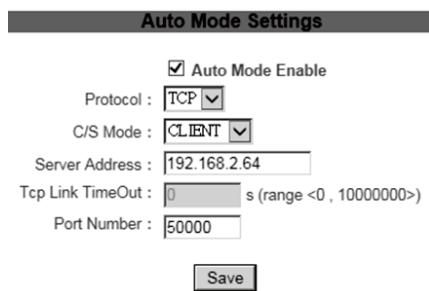

Figure 31
9. In "Auto Mode Settings" column, mark a check (default) before the "Auto Mode Enable", "Protocol" is communication protocol, choose "TCP" (default) or "UDP" to communicate; "C/S Mode" is working mode, choose "SERVER" (when you in SERVER mode) or "CLIENT" mode; "Tcp Link TimeOut" is equipment standby time disconnection, the "port number" can be set up by your preference (like 50000), click "Save" button to save the setting (Figure 31).